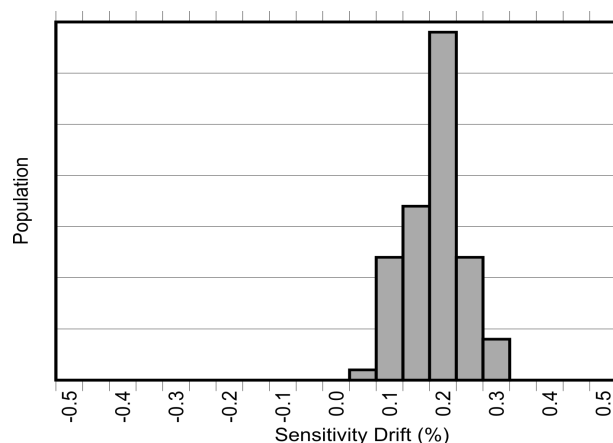
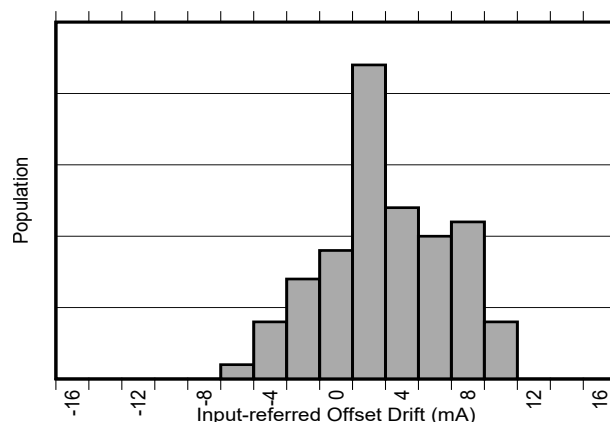

Figure 8-2. Sensitivity Error Drift After AEC-Q100 High Temperature Operating Life Stress Test
Figure 8-3. Input-Referred Offset Drift After AEC-Q100 High Temperature Operating Life Stress Test
In addition to large thermal drift, typical magnetic current sensors suffer an additional 2% to 3% drift in sensitivity due to aging over the lifetime of the device. The same proprietary compensation techniques used in the TMCS1126 to reduce temperature drift are also used to greatly reduce lifetime drift due to aging from stress and environmental conditions especially at high operating temperatures. As shown in the Electrical Characteristics, the TMCS1126 has industry leading lifetime sensitivity drift realized after Highly Accelerated Stress Tests (HAST) at 130°C and 85% relative humidity (RH) during standard three lot AEC-Q100 qualifications. Low sensitivity and offset drift within the bounds specified in the Electrical Characteristics are also observed after 1000 hour, 125°C high temperature operating life stress tests are performed as prescribed by AEC-Q100 qualifications. These tests mimic typical device lifetime operation, and show device performance variation due to aging is vastly improved compared with typical magnetic current sensors. Figure 8-2 and Figure 8-3 show the sensitivity and offset drift after a 1000 hour, 125°C high temperature operating life stress test as specified by AEC-Q100. Device operational performance varies over the lifetime of the device. This test mimics typical device lifetime operations and shows the likelihood of the device vastly improving performance compared to typical magnetic sensors.